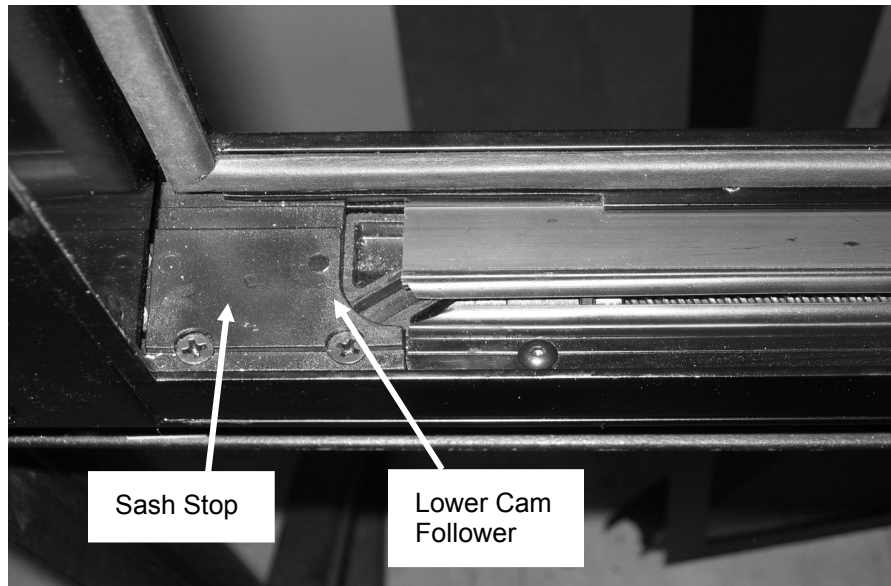

FIGURE 23: PROPER ALIGNMENT
1. Align the leading edge of the slot on the lower cam follower block with the sash stop. Use the power toggle switch to obtain the correct alignment. (Figure 23)